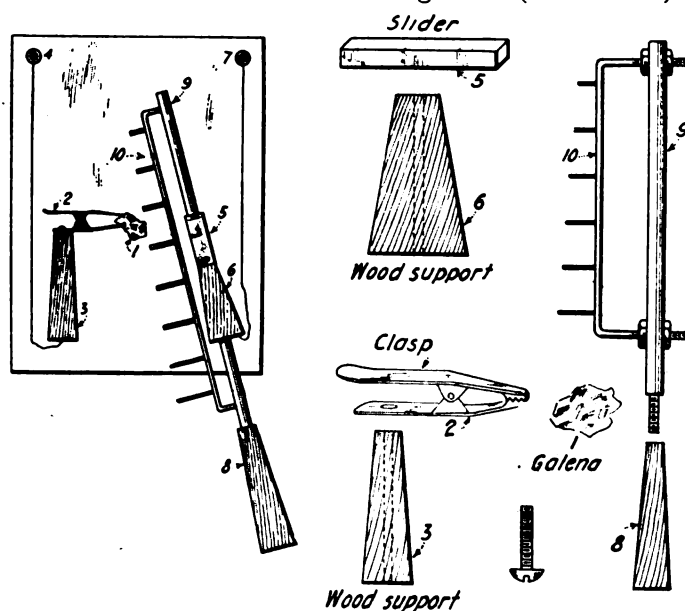

Figure 7—The cat whisker detector illustrated in detail
Figure 7 shows the drawings of a novel type of cat whisker detector. The mineral (galena or cerusite) is clamped in the stationary wood support (3) and held by clamp (2). The points as mounted on the copper wire (soldered) which in turn is made fast to the $\frac{1}{4}$ " square brass rod (9). Each point as will be seen from the drawing is made longer than the preceding one, or they can all be the same length but each of different gauge spring wire making each a little more "springy" than the preceding one. The sliding arrangement (8-9 and 10) should be